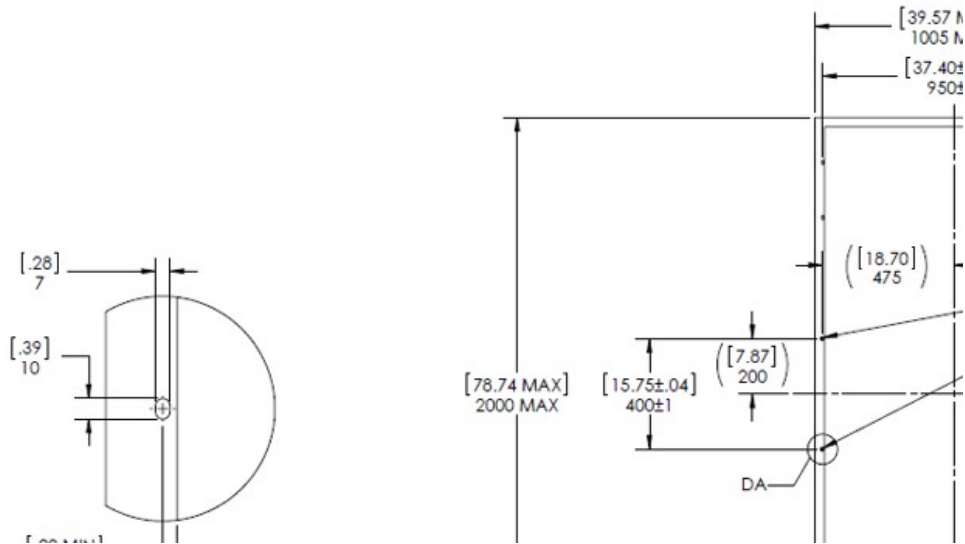

FIG 7. NEXTracker mounting holes at 400mm short rails
- If VSUN modules will be mounted on NEXTracker system at 400mm short rail. The special mounting holes should be designed as FIG. 7.